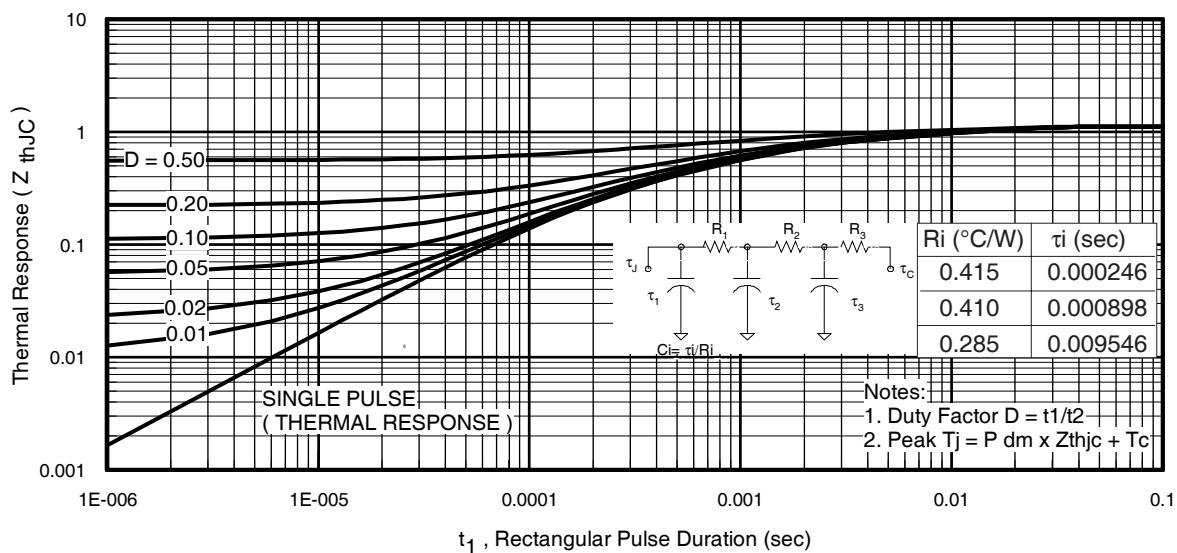
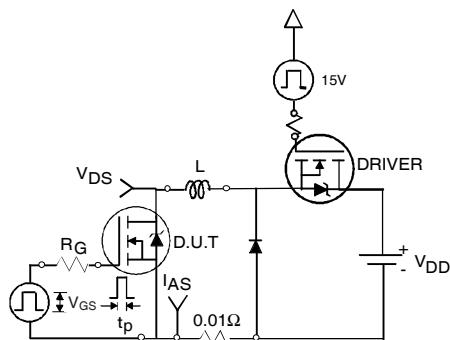

Fig 11. Maximum Effective Transient Thermal Impedance, Junction-to-Case
Fig 12a. Unclamped Inductive Test Circuit
- ① Repetitive rating; pulse width limited by max. junction temperature. (See fig. 11).
- ② Limited by $T_{J\text{max}}$, starting $T_J = 25^\circ\text{C}$, $L = 0.077\text{mH}$, $R_G = 25\Omega$, $I_{AS} = 51\text{A}$, $V_{GS} = 10V$. Part not recommended for use above this value.
- ③ $I_{SD} \leq 51\text{A}$, $dI/dt \leq 260\text{A}/\mu\text{s}$, $V_{DD} \leq V_{(\text{BR})\text{DSS}}$, $T_J \leq 175^\circ\text{C}$.
- ④ Pulse width $\leq 1.0\text{ms}$; duty cycle $\leq 2\%$.
- ⑤ $C_{oss \text{ eff.}}$ is a fixed capacitance that gives the same charging time as C_{oss} while V_{DS} is rising from 0 to 80% V_{DSS} .
- ⑥ Limited by $T_{J\text{max}}$, see Fig.12a, 12b, 15, 16 for typical repetitive avalanche performance.
- ⑦ This value determined from sample failure population. 100% tested to this value in production.
- ⑧ This is applied to D²Pak, when mounted on 1" square PCB (FR-4 or G-10 Material). For recommended footprint and soldering techniques refer to application note #AN-994.
3. Equation below based on circuit and waveforms shown in Figures 12a, 12b.
- $Z_{thJC}(D, t_{av})$ = Transient thermal resistance, see figure 11)